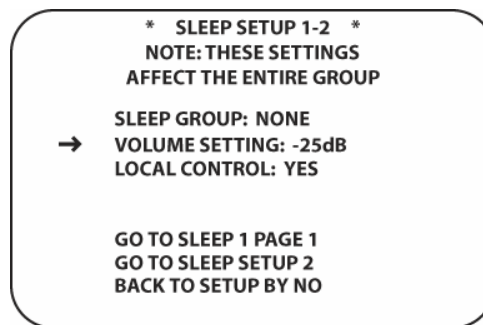

Figure 118 Sleep Setup 1-2
- To continue Setup, press the ▼/▲ **Navigation Button [oval 16]** to position the cursor next to GO TO SLEEP 1 PAGE 2. Press the **Set button [oval 18]**. The SLEEP SETUP 1-2 screen will appear. (**Figure 118**)